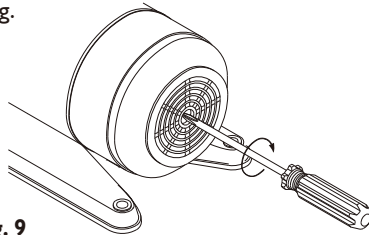

Fig. 9
3. If the pump shaft is seized up after periods of inactivity, please place a screw driver from the motor end to rotate the shaft. It should free the pump shaft. (See Fig 9) If this does not remedy the problem, the unit will need dismantling.